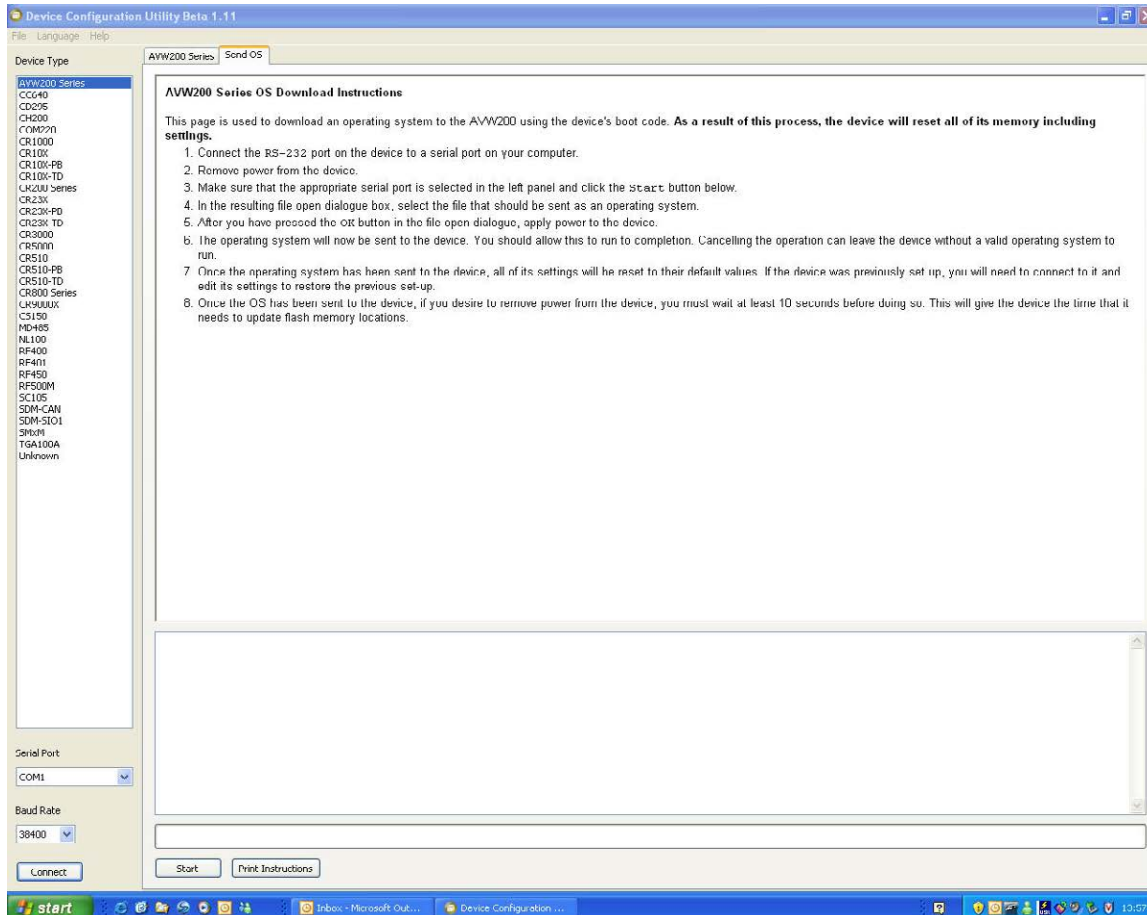

FIGURE 5-6. Sending an Operating System using DevConfig
5. Click the Send OS tab and follow the directions on the screen (FIGURE 5-6).